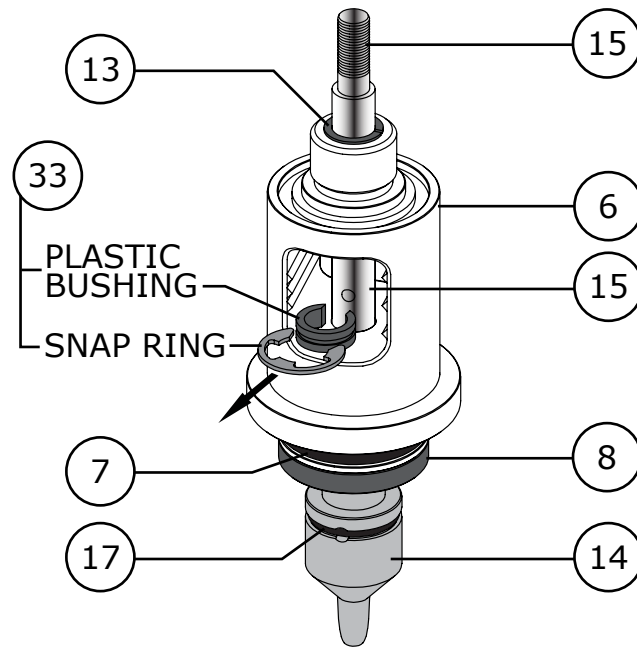

Figure 22 Travel Indicator Removal
- 5 Remove the travel indicator (Key 33) by removing the metal snap ring from the plastic bushing and then removing the plastic bushing from the stem (Key 15). Refer to Figure 22. **NOTE:** The travel indicator can also be removed as you remove the valve stem (Key 15) in Step 6.